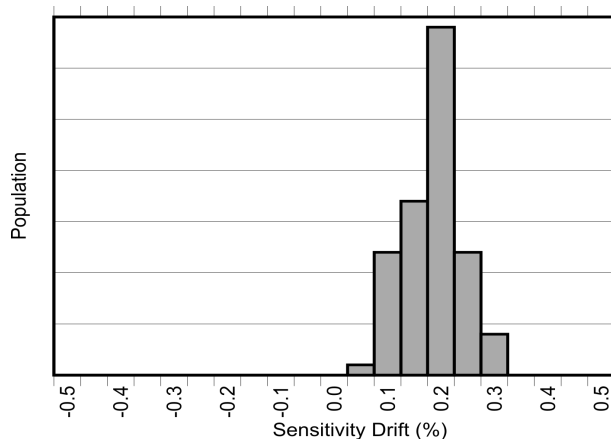
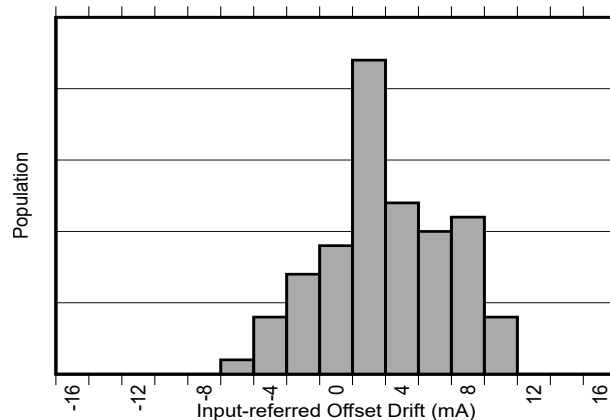

Figure 8-3. Sensitivity Error Drift After AEC-Q100 High Temperature Operating Life Stress Test
Figure 8-4. Input-Referred Offset Drift After AEC-Q100 High Temperature Operating Life Stress Test
In addition to large thermal drift, typical magnetic current sensors suffer an additional 2% to 3% drift in sensitivity due to aging over the lifetime of the device. The same proprietary compensation techniques used in the TMCS1126 to reduce temperature drift are also used to greatly reduce lifetime drift due to aging from stress and environmental conditions especially at high operating temperatures. As shown in the Electrical Characteristics, the TMCS1126 has industry leading lifetime sensitivity drift realized after Highly Accelerated Stress Tests (HAST) at 130°C and 85% relative humidity (RH) during standard three lot AEC-Q100 qualifications. Low sensitivity and offset drift within the bounds specified in the Electrical Characteristics are also observed after 1000 hour, 125°C high temperature operating life stress tests are performed as prescribed by AEC-Q100 qualifications. These tests mimic typical device lifetime operation, and show device performance variation due to aging is vastly improved compared with typical magnetic current sensors. Figure 8-3 and Figure 8-4 show the sensitivity and offset drift after a 1000 hour, 125°C high temperature operating life stress test as specified by AEC-Q100. Device